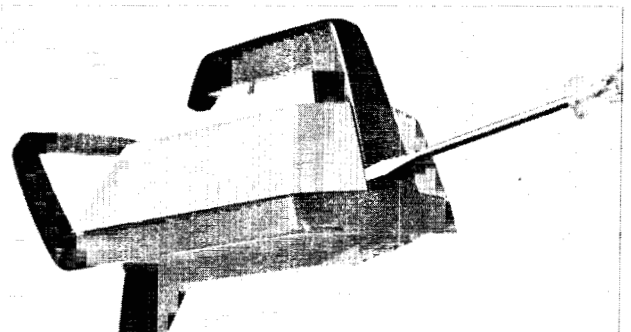

Figure 5.1
5.1 INSPECT UPPER TO LOWER HARNESS CONNECTION (fig. 5.1)